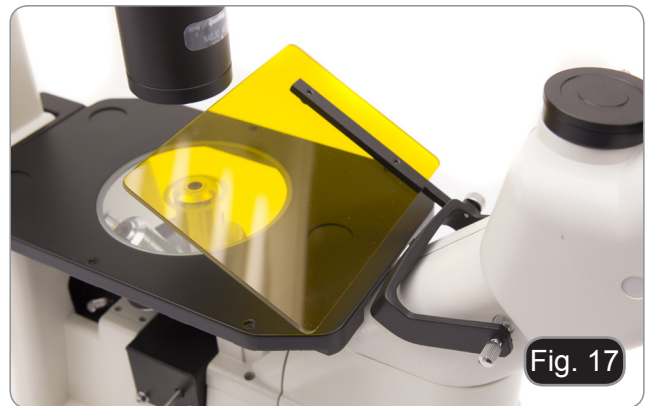

Fig. 15
4. Remove one of the knurled knobs from the filter holder and slide it into the slot placed in the back side of the microscope. (Fig. 15)